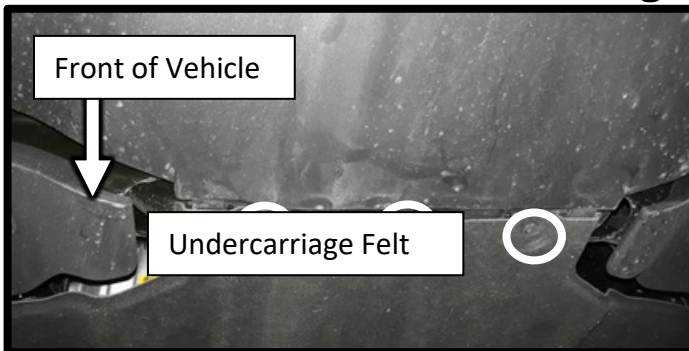

Figure 2.2
- Remove the three additional bolts towards the front of the vehicle. First remove the two outside bolts, then pull down the undercarriage felt to access the center bolt as shown in figure 2.2.
- It is useful to have a second person help with the reinstallation of the bumper. Make sure to slide the front tab of the black plastic underneath the felt cover still attached to the underside of the vehicle. See Figure 2.2 for reference.